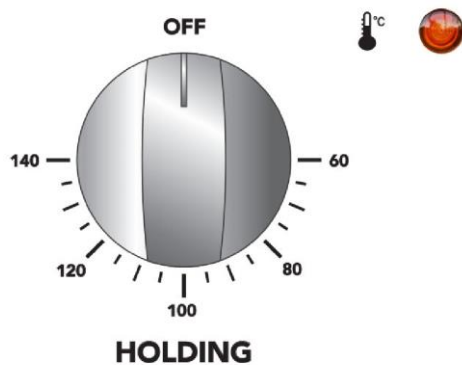
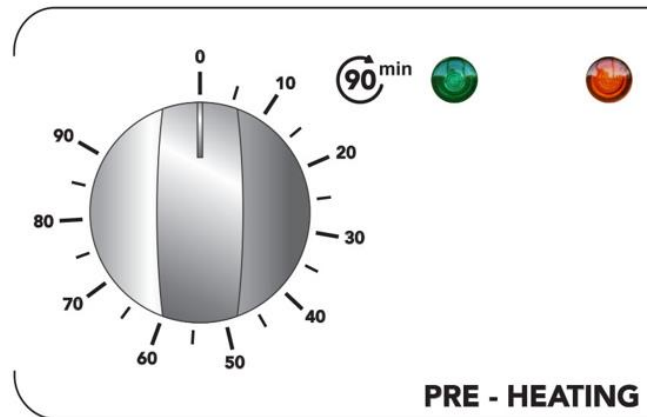

Figure 1
Figure 2
3. If required, set the Pre-Heating Thermostat knob to desired temperature (see Figure 3). Next, turn the timer (Figure 2) to the desired heat up time. The Pre-Heating Thermostat will override the Primary Thermostat (Figure 1) when the timer is active. An audible ding will advise when the Pre-Heat timer has elapsed and the machine will revert to holding temperature.